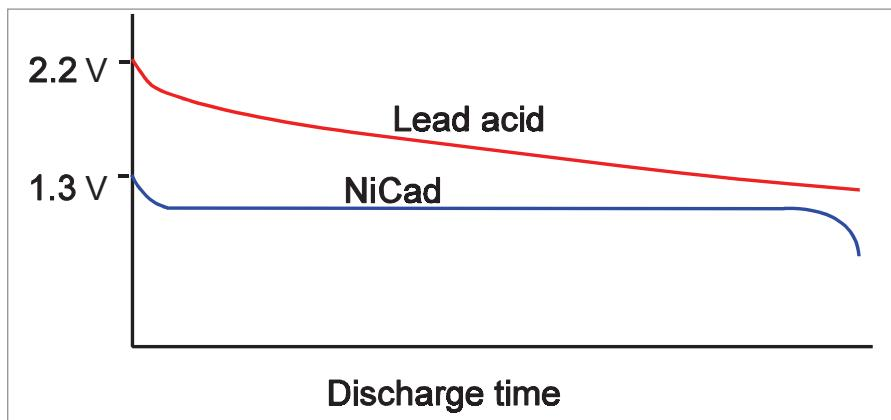

Figure 4.8
*Figure 4.8* is a graphical representation of a comparison of the discharge voltage of a lead acid against a NiCad during discharge.